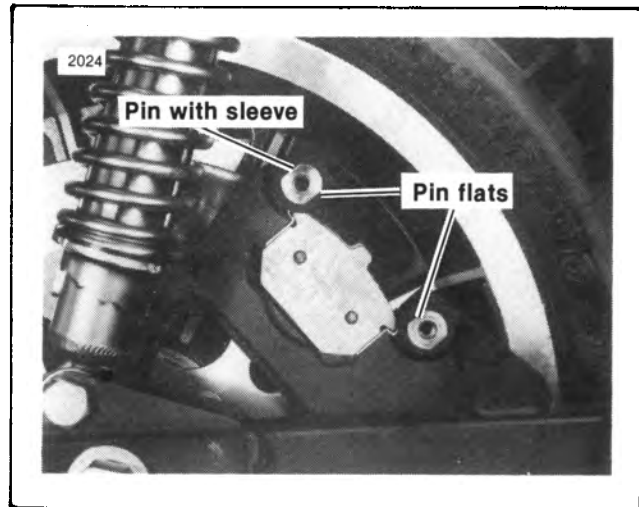

Figure 2-61. Rear Brake Pin Registration — FXR Models
- If piston was removed install new seal (13) into caliper bore. Install piston (12) all the way into caliper bore and install new boot (11) and retaining wire (10).
- Place pad spring (9) into top of caliper with long tab extending above piston. Hook short tab opposite piston above ridge on caliper casting to hold spring in place.
- Install pin boots (8) on upper and lower pins (6 and 7) and coat pins and pin bores with clear silicone grease. Insert pins into pin bores (pin with rubber sleeve goes into top hole) making sure boots are properly seated on boss around holes. Turn pins so flats are parallel with opening in bracket as shown in Figure 2-61.